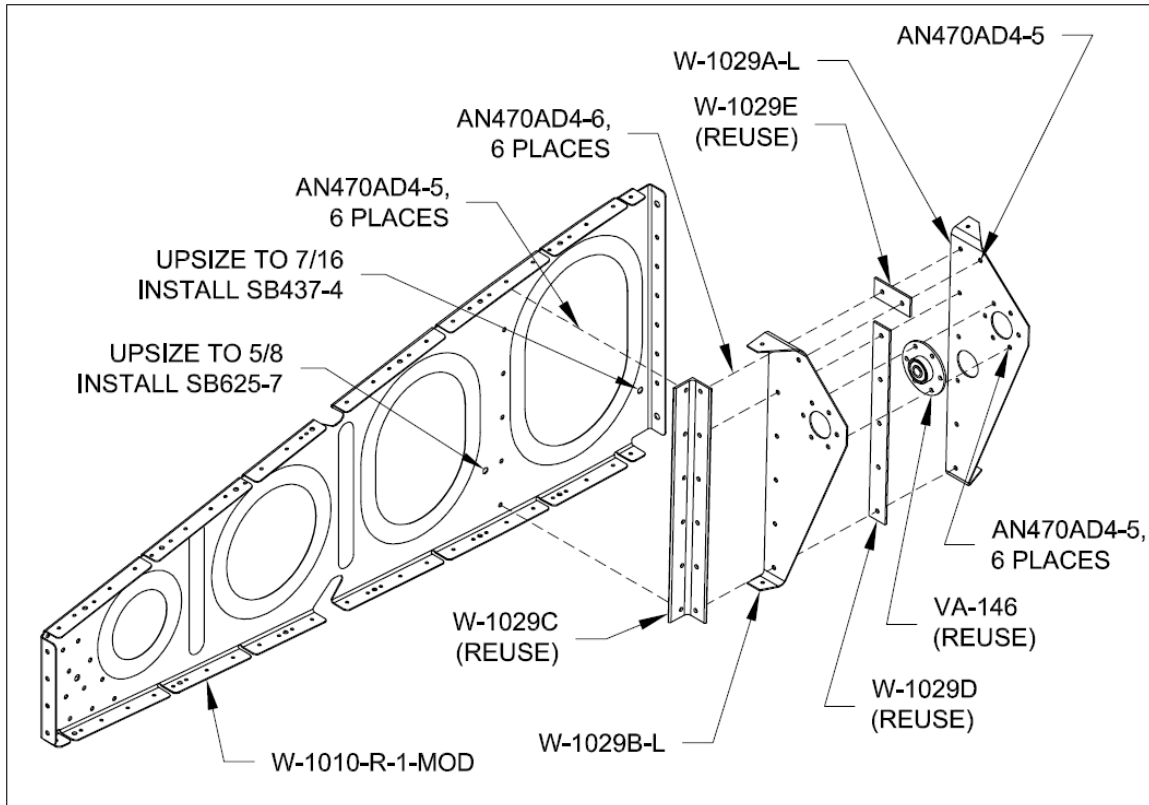

FIGURE 6: TORQUE TUBE SUPPORT BRACKET ASSEMBLY
Step 22: Drill out all rivets required to remove the Torque Tube Support Bracket Assembly from the W-1010-R. Continue drilling out all fasteners needed to disassemble the bracket, and set aside the VA-146, W-1029C, W-1029D, W-1029E for reuse. Reference Figure 6.
Step 24: Upsize the tooling holes and install the snap bushings into the W-1010-R-1-MOD as shown in Figure 6.
Step 25: Reassemble and rivet the Torque Tube Support Bracket Assembly with the replacement W-1029A-L and W-1029B-L, reusing the W-1029C, W-1029D, W-1029E, and VA-146. See Figure 6.
Step 26: Rivet the Torque Tube Support Bracket Assembly to the W-1010-R-1-MOD as shown in Figure 6.